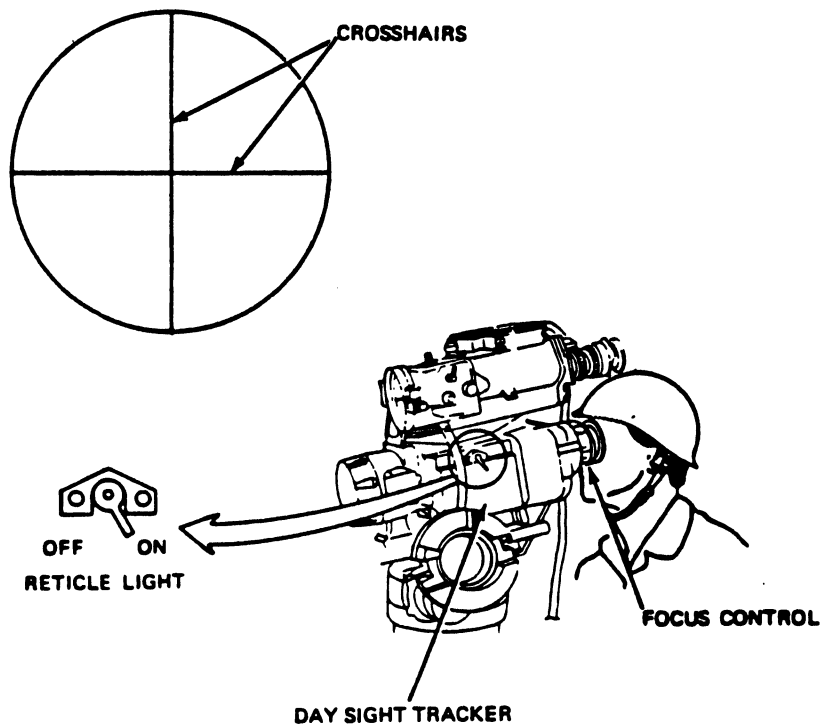

Fig 4-28. Crosshairs/focus control, reticle light switch (day sight tracker).
Step 3. Adjust the focus control on the day sight tracker until the crosshairs are in focus and set the RETICLE LIGHT switch to ON if you need to see the crosshairs more clearly (fig 4-28).